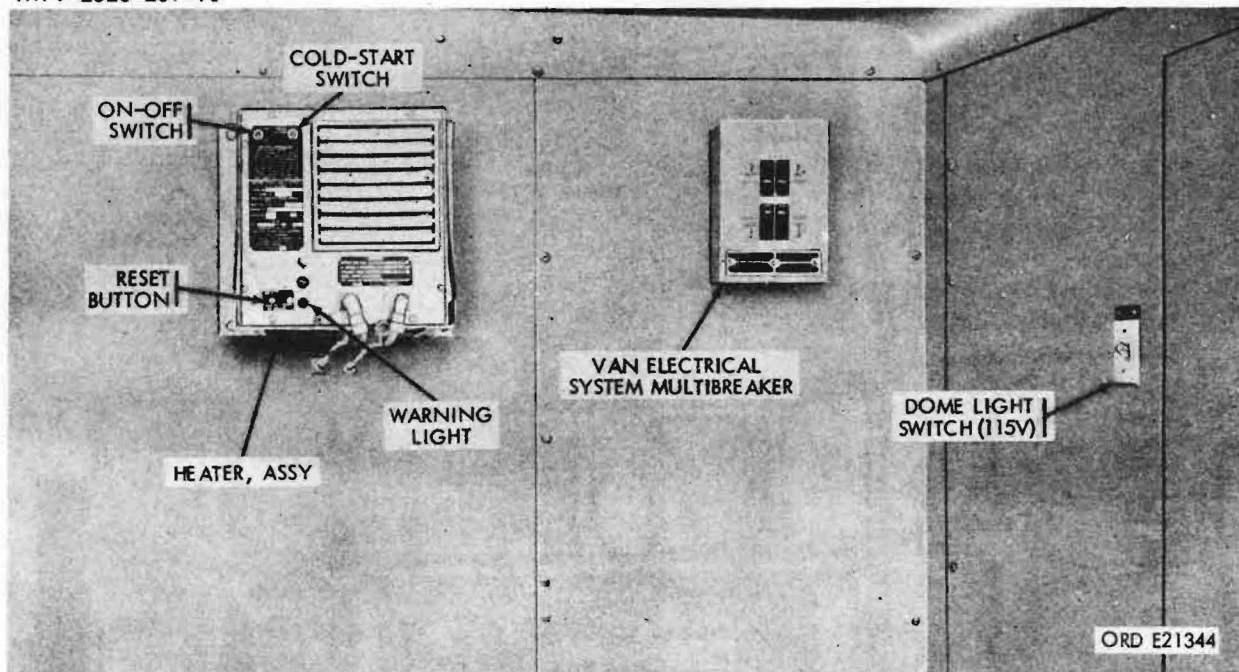

Figure 89. Van body heater multibreaker and 115-volt dome-light switch
- (1) Heater controls (fig. 89). The heater assembly is located inside the van on the front wall panel. An ON/OFF switch controls the heater operation. The COLD START toggle switch is used as a cold-weather starting aid. The RESET button, at the bottom of the panel is pressed when restarting the heater after it has shut down.
- (2) Multibreaker assembly (figs. 89 and 90). The 115-volt multibreaker assembly is located inside the van body on the upper right frontpanel. Breaker No. 1 controls and protects the power receptacles circuit. Breaker No. 2 controls and protects the ventilator blower circuit. Breaker No. 3 controls and protects the 115-volt dome-light circuit. Breaker No. 4 controls and protects the heater power supply circuit.
- (b) Dome-light switch (115-volt) (fig. 89). The 115-volt dome-light switch, located on the interior right van wall, is actuated to turn the 115-volt dome lights on or off.
- (7) *Water temperature gage (fig. 89)*. This gage, located on the instrument cluster, is marked TEMP F° on the face of the gage. The
c. Electronic Shop Van Truck XM567 Heater Warning Light (Fig. 89). This light located on the heater control panel, illuminates red when a heater malfunction occurs. After the malfunction is corrected, the reset button should be depressed, the indicator will go out.